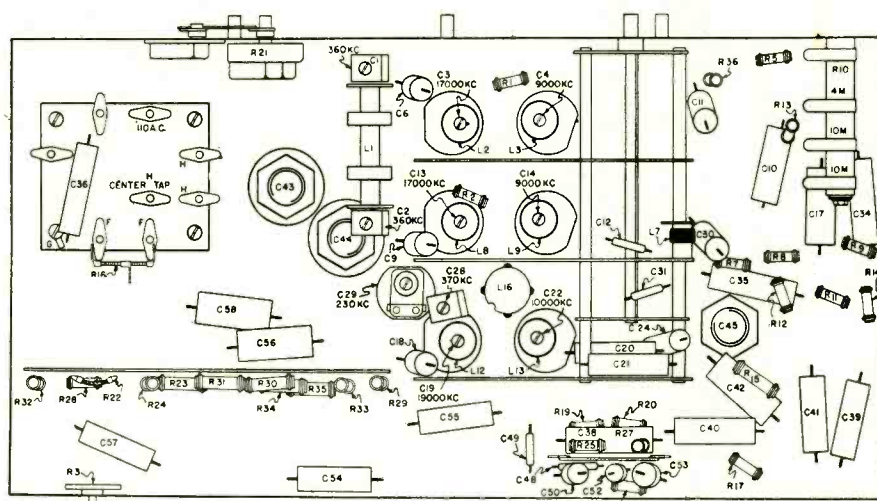

Fig. 4. Under-chassis sketch, showing location of trimmer condensers, etc.
2. Set the test oscillator to 370 kc. Open the variable condenser plates all the way and adjust the oscillator trimmer, C28, for maximum output meter reading. This trimmer is mounted under the chassis, as shown in Fig. 4.
C2, for maximum output meter reading. These trimmers are mounted under the chassis, as shown in Fig. 4.